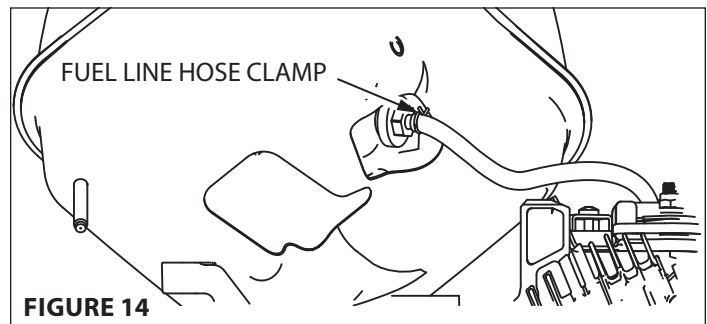

FIGURE 14
6. Gently lift tank off of the engine and disconnect the fuel line hose clamp. **SEE FIGURES 14 and 15.**